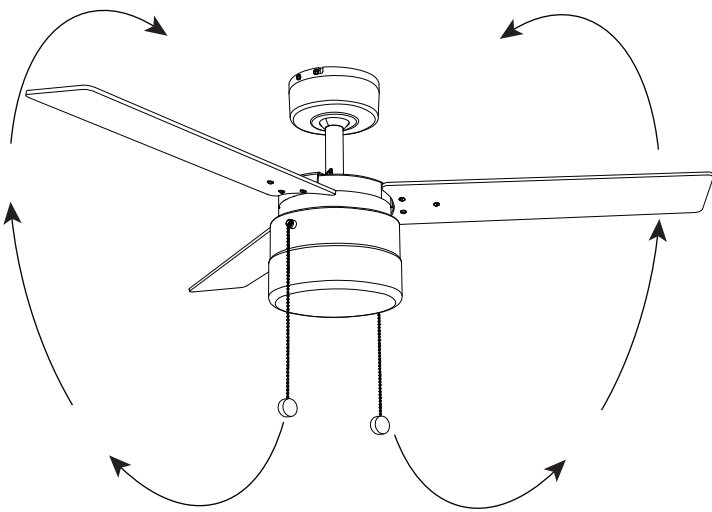

Figure 15
**Warm weather - (Forward)** A downward air flow creates a cooling effect as shown in Figure 15. This allows you to set your air conditioner on a higher setting without affecting your comfort.